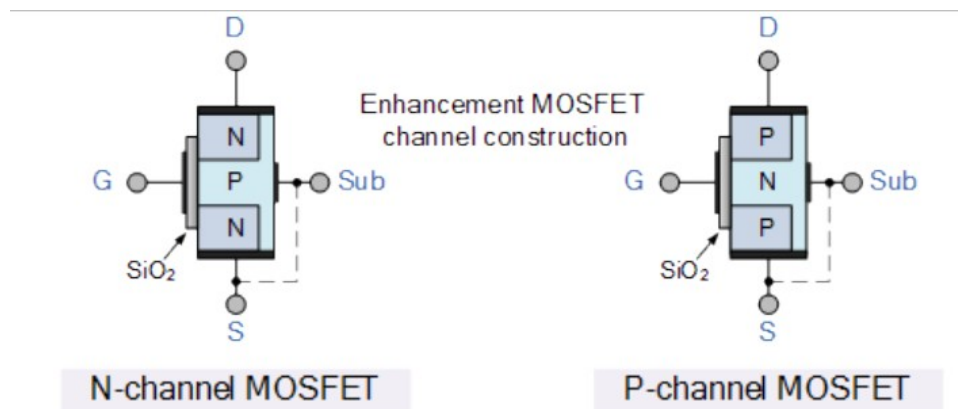

Figure 1: MOSFET basic construction
- a network that connects the output to ground (PDN: pull-down network) when a "0" is request. Figure 1. shows the general diagram of a supplementary circuit.